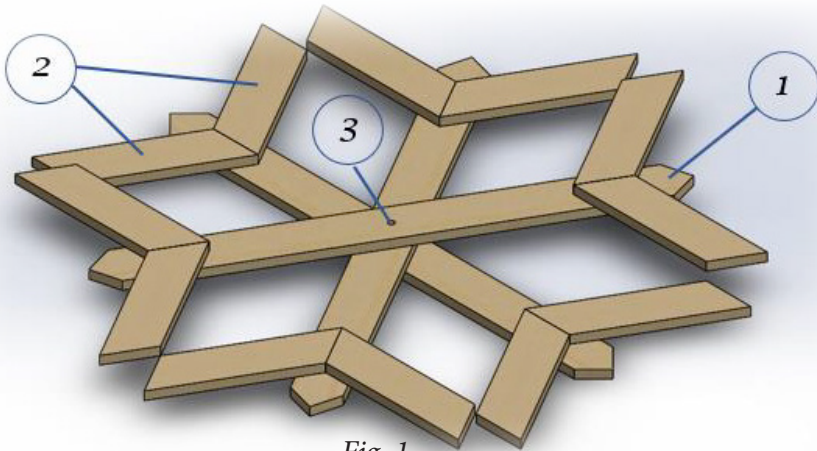

Fig. 1
- Divide the (12) wingtip pieces (#2 in Fig. 1) into (6) pairs. Place (1) pair at each end of each crosspiece. Abutt the angled ends of each pair as indicated by the red arrows in Fig. 2. Use the red circle in Fig. 2 to help positioning the wingtips at the end of each crosspiece.
- 3 – Crosspieces (#1 in Fig. 1)
- 6 – 2-piece wingtip assemblies (#2 in Fig. 1)